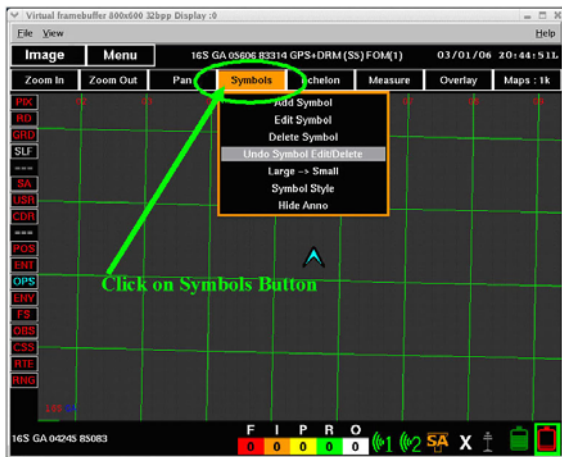

Figure 4. Adding a Map Symbol Screen 2.
3. Top mouse click on "Symbols" button (Figure 4).